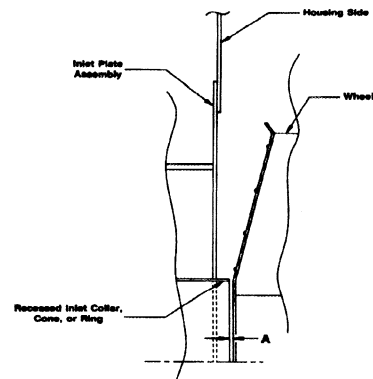

Figure 3 (Dimensions are in inches)
- 6. When installing a new wheel or cone, the proper wheel-to-inlet cone clearance must be maintained (see Figure 3 for correct wheel dimension).